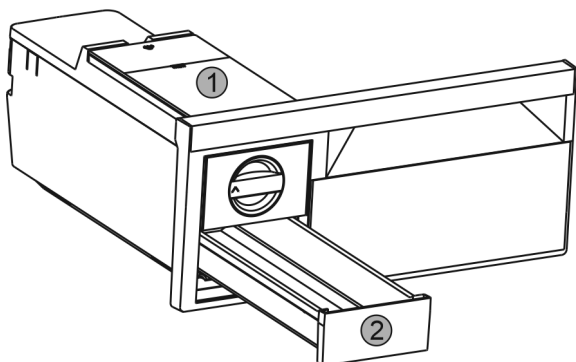

Fig. 55
- ▶ Take out the water tank Fig. 55 (1) and ice cube drawer Fig. 55 (2).